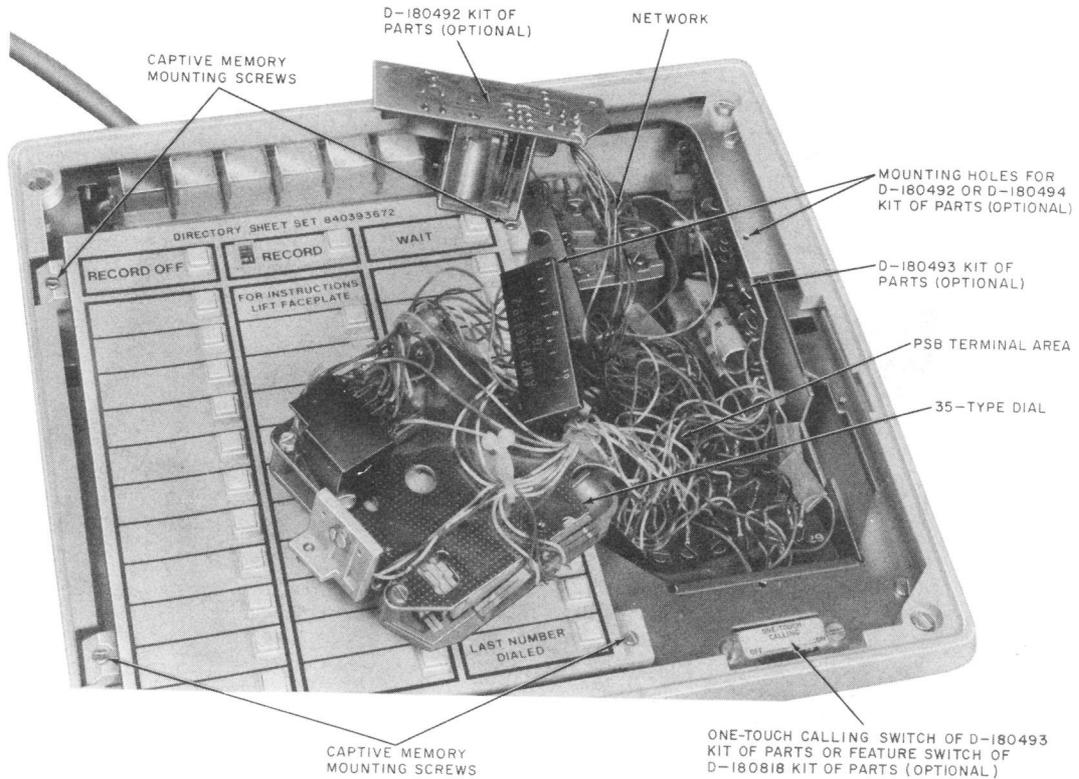
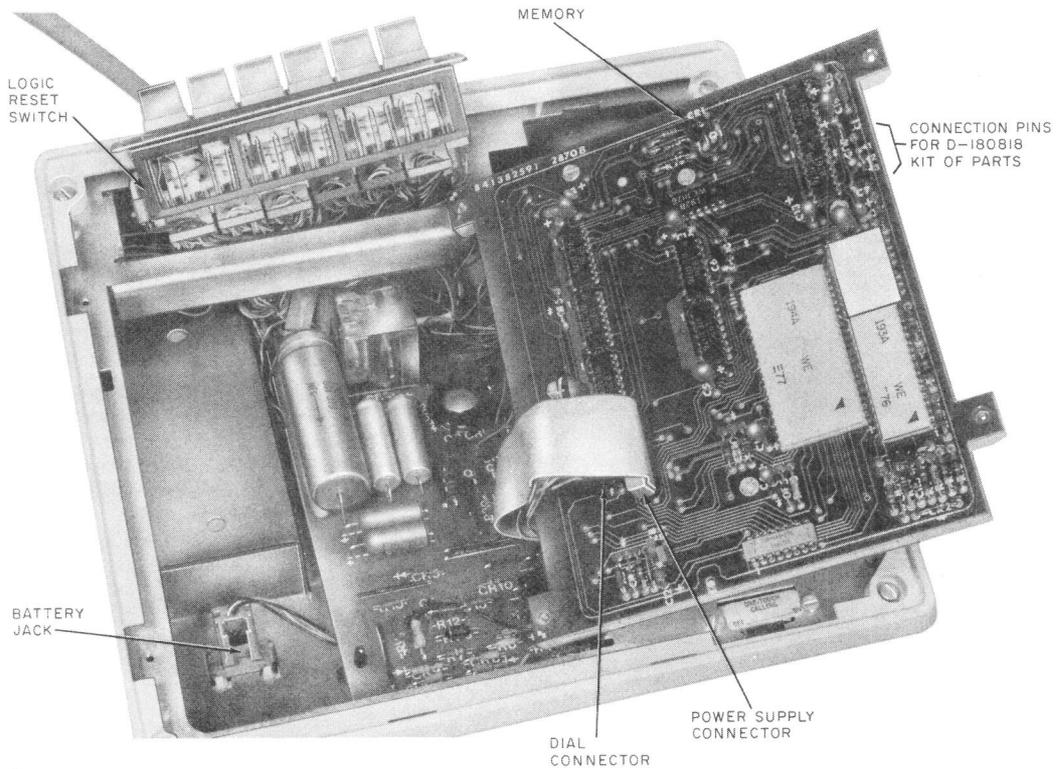

Fig. 4—2872A2M Telephone Set, Dial Removed To Show Terminal Area
Fig. 5—2872A2M Telephone Set, Internal View, Overall
- (1) Perform steps in paragraph 3.16.
- (2) Make connections per the appropriate Tables B through E.
- (3) Mount the kit assembly to the chassis with the screws provided (Fig. 4). Beveled corner of printed wiring board (PWB) should be located at lower right corner.
- (1) Remove the housings (paragraph 3.21), and access PSB terminal board (paragraph 3.17).
- (2) Insert the board assembly from the back of the set and locate as shown in Fig. 4, such that the two tabs on the board assembly fit into the slots in the bottom of the chassis.
- (3) Lock the board into position by inserting the self-threading screw through the right side of the chassis.
- (4) Mount the one-touch calling switch below the dial with the two screws provided.
- (1) Perform steps in paragraph 3.17.
- (2) Make connections per Table G.
- (3) Mount the kit assembly to the chassis with the screws provided (Fig. 4).
- (3) Disengage the four captive memory mounting screws (Fig. 4).
- (4) Disengage the two captive dial mounting screws and move dial aside.
- (5) Rotate left edge of the memory upward as shown by Fig. 5.
- (6) Mount switch below dial using the two screws provided (Fig. 4).
- (2) The following are located under the faceplate, inside the set (Fig. 4 and 5):
- (a) Battery jack (Fig. 5)
- (b) Power supply (PSB) terminal area (Fig. 4)
- (c) Network (Fig. 4)
- (d) Options (Fig. 4) are:
(d) Options (Fig. 4) are: